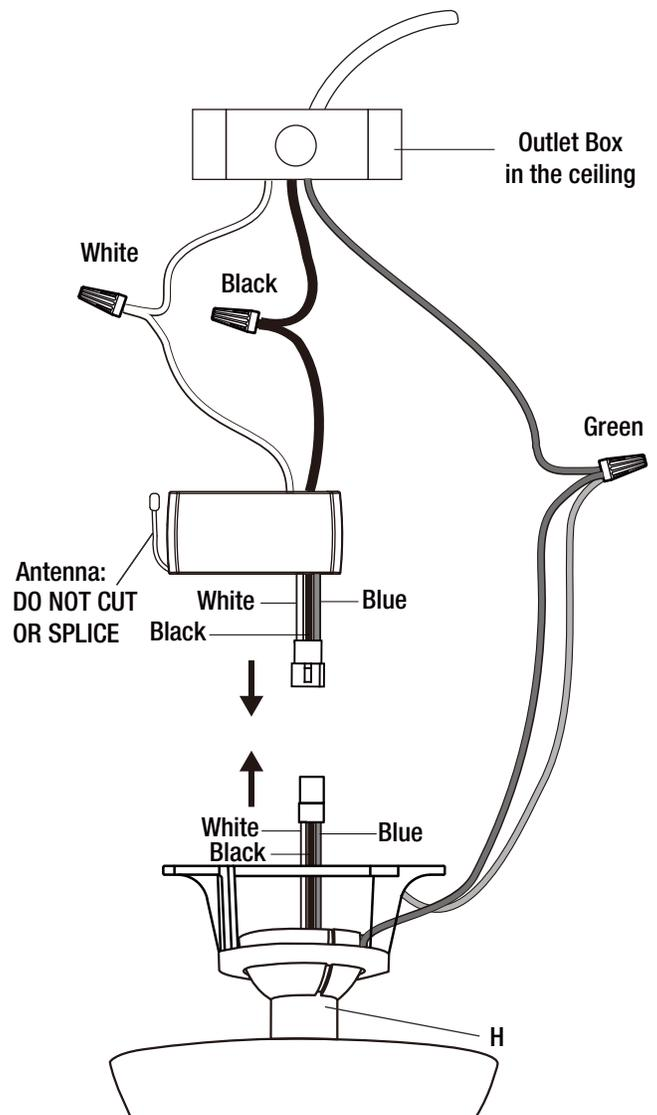

Figure 11
- Connect the receiver (D) to the fan wires by inserting the molded adaptor plug from the receiver (D) to the molded adaptor plug on top of downrod assembly (H), as illustrated in Figure 11.
- Use wire connectors (BB) to connect the receiver (D) and fan wires to the supply wires from outlet box according to Figure 11 and the following instructions: